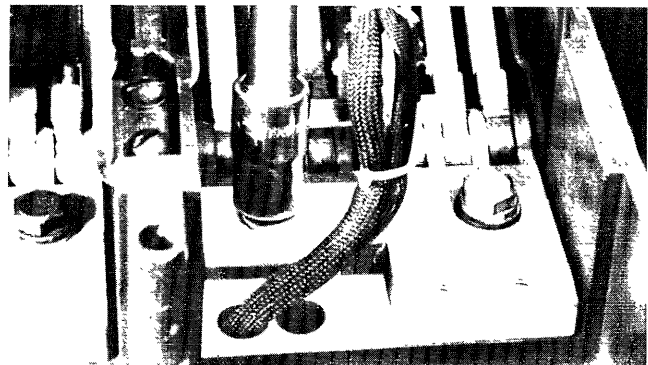

Fig. 3.
3. Remove the left hex-head bolt. Discard the plain washer, and install the switch assembly as shown in Fig. 3, using bolt and lockwasher. Torque the bolt to 30 inch-pounds while holding the unit in the correct position.